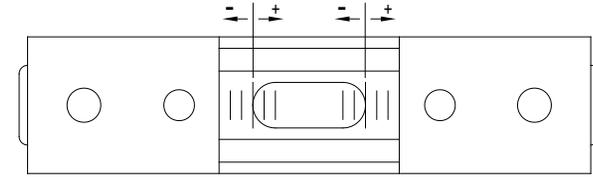
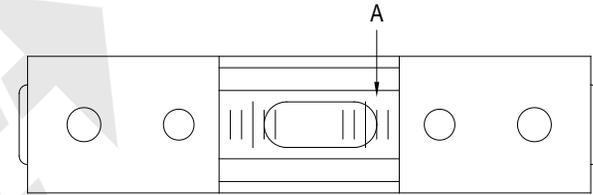
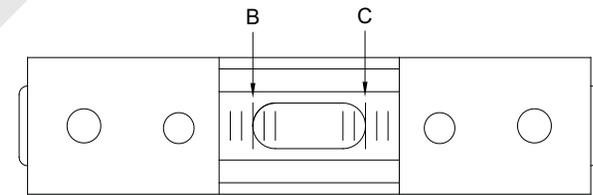

Fig.2
Fig.3
Fig.4 (Turn 180°)
3. In order to get accurate reading, rotate 180° in measurement: the left scale is negative (Fig.2). Not until the bubble is steady(about 40s), do get the reading A(Fig.3). Turn block level 180° and put it at the same position, get the reading B(Fig.4). The result is (A+B)/2. As the example: A=+1 grid, B=0 grid, (A+B)/2=+1/2 grid.
Appended: Zero deviation(A-C, Fig. 3 and Fig. 4) is more than 1 grid after block level is hit or suffered other external forced, please return product to company.